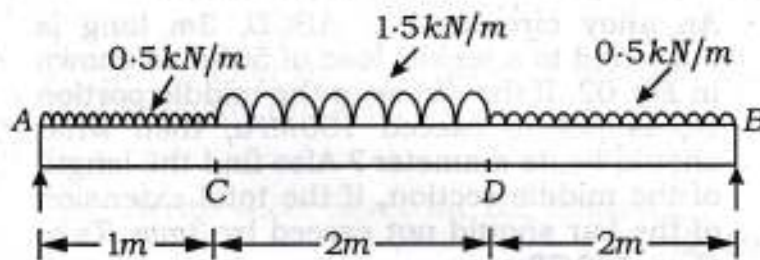

Fig. 03
6. (a) Draw the shear force and bending moment diagrams for a simply-supported beam, loaded as shown in Fig. 03. Show all the calculations. 10